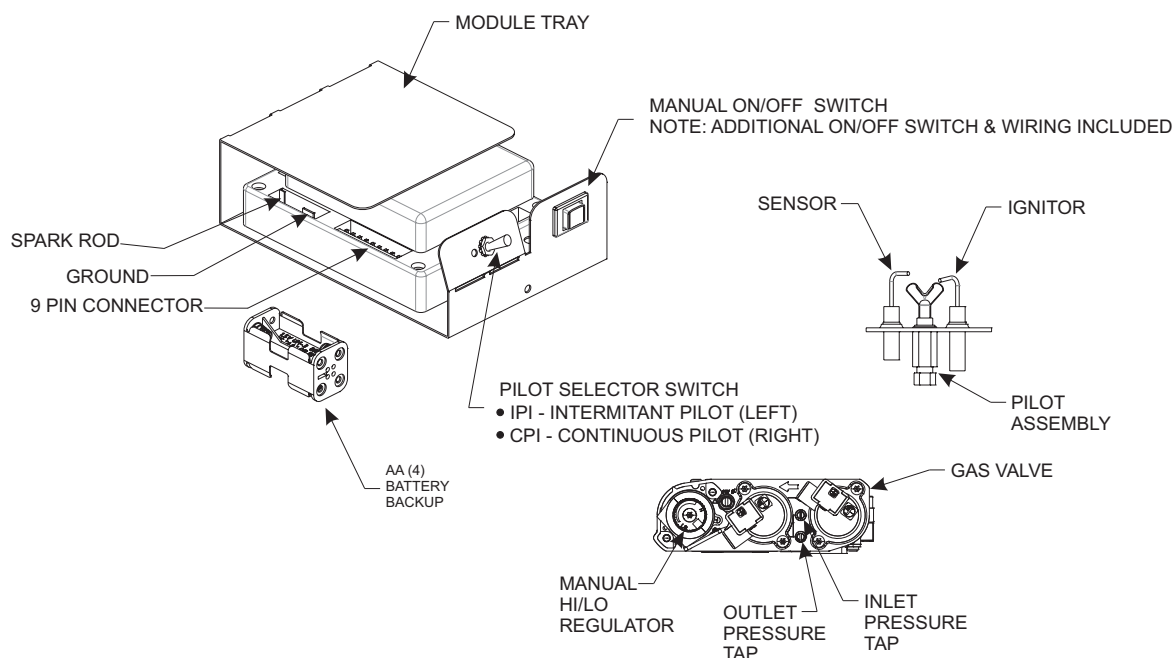

Figure 75
See Figure 75.
3. The gas valve has inlet and outlet pressure taps as shown in Figure 75. Refer to pages 8 and 17 for gas pressure requirements.
NOTICE: The gas control has a manual HI/LO flame adjustment knob (regulator) that allows you to increase or decrease the height of the burner flame. See Figure 75. Rotate the HI/LO knob counterclockwise to "HI" to increase the flame height, and clockwise to "LO" to decrease the flame height.
To connect the remote receiver to the appliance, first disconnect the ON/OFF switch wires from the white and green wire connectors and connect the wires from the remote receiver to the green and white wire connectors. See Figure 75. Follow the instructions included with the remote control for programming and other operational information.